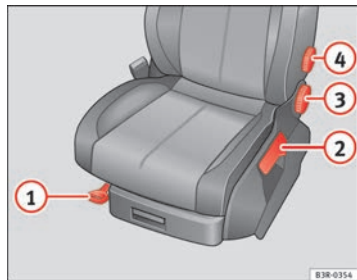

Fig. 106 Adjuster controls on driver's seat
- Lift the lever ① ⇒ fig. 106 and move the seat to the desired position.
- Then release the lever ① and move the seat further until the catch engages.
- Pull the lever ② ⇒ fig. 106 up repeatedly until the seat is in the desired position.
- Turn the adjuster wheel (3) ⇒ page 134, fig. 106 to set the angle of the backrest as required.
- Do not exert any pressure on the backrest and turn adjuster wheel (4) ⇒ page 134, fig. 106 to adjust lumbar support.